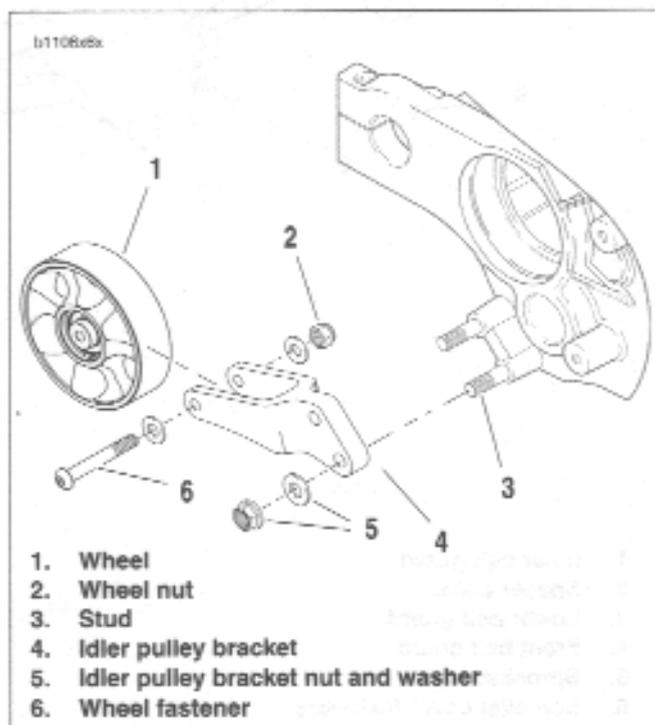

Figure 1-26. Idler Pulley Assembly
4. See Figure 1-26. Remove idler pulley bracket nuts and washers (5) from studs (3).
5. Slide idler pulley bracket (4) off studs (3).
6. Inspect pulley by spinning wheel (1) and checking for wheel bearing wear.
7. If pulley wheel needs replacement, remove fastener (6), washer and nut (2) from idler pulley bracket (4) and discard wheel. Replace with new pulley wheel (1).
1. See Figure 1-26. Install new or existing pulley wheel (1), if removed, and tighten washer and nut (2) wheel fastener (6) to 96-120 in-lbs (11-14 Nm).
2. Slide idler pulley bracket (4), washer and nuts (5) on to studs (3) and tighten to 33-35 ft-lbs (45-47 Nm).